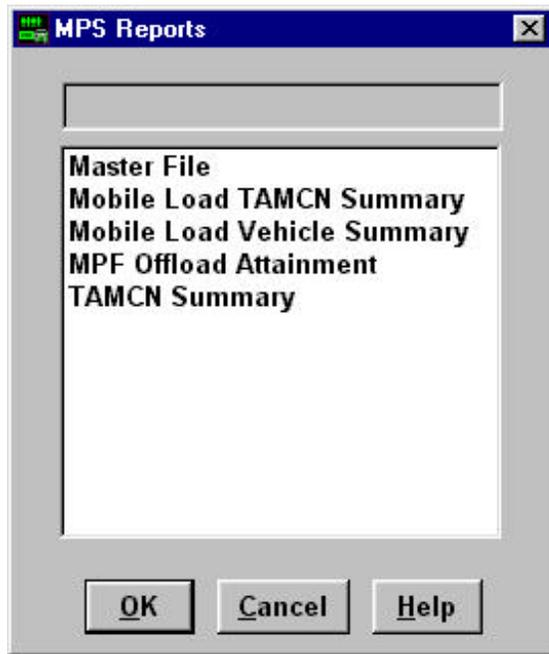

Figure 4.
4. **MARITIME PRE-POSITIONING SHIPS (MPS) AND PREPO.** These reports are setup for MPF Ops. Select **Tools, Reports, MPS** from the drop down menu. The following options appear:(see Figure 4.)